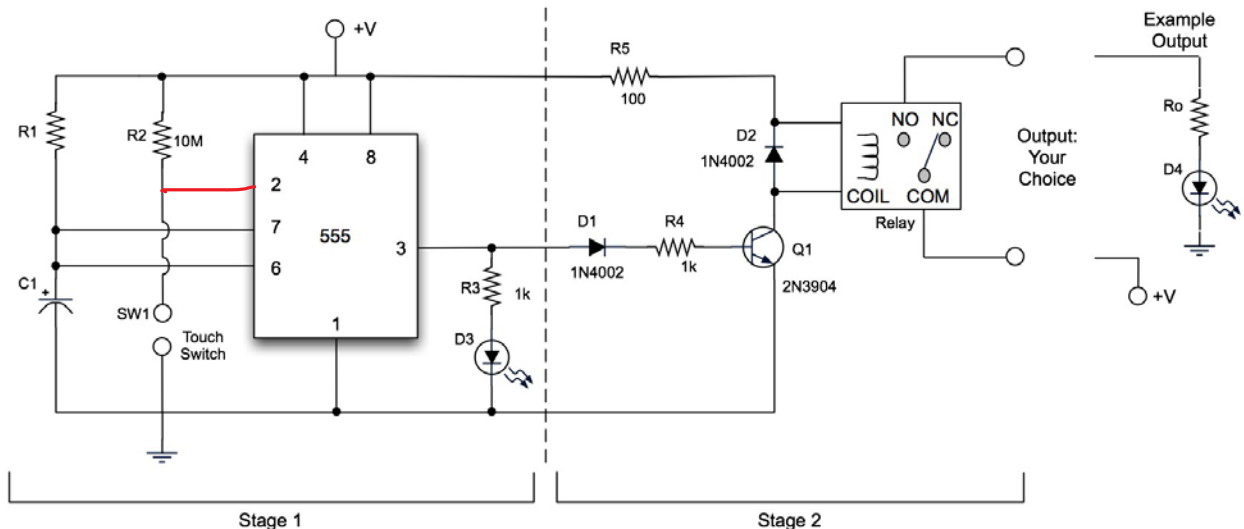

Figure 1: Touch switch circuit
The touch switch circuit is given in Figure 1 and is split into 2 stages. Stage one of the circuit produces the output pulse using the 555 timer to turn on the LED (D3). Once the desired output pulse width is defined, then stage two is added to complete the circuit. The input voltage for this circuit can vary widely. Enough voltage should be applied to drive the 555 timer and relay, however, too much voltage could destroy the 555 timer or the relay coil. The output components will also need to be considered when choosing the input voltage. One should consider this circuit as a marketable product for a toy, game, gag gift, holiday decoration, etc. when designing the output portion of the circuit. Important design questions should be answered:
Build stage 1 of the Project circuit (Figure 1) and simulate it for 10 seconds. Use the input voltage stated in Q(2A). To simulate the touch input to pin 2, use a monetary switch or push-button.
Add stage 2 to the previous circuit simulation and simulate it for 10 seconds. Use the input voltage stated in Q(2A). Use the example output after the relay from the project circuit given in Figure 1. To simulate the touch input to pin 2, use a monetary switch or push-button. Use a **EDR201A05 Relay** in your circuit, which can be found in the relay category of component group basic. This is a SPST relay with a NO contact, and not a SPDT relay like we have in the lab, but when the circuit is built only the NO will be required. ***\*\*When simulating the full circuit, only tap the space bar (it simulates the function of the switch) once or an error will occur\*\*.***
This part of the project involves constructing the circuit and demonstrating that it works as demonstrated by the simulation. Build each stage of the circuit in Figure 1 and then add the designed output portion. Answer all questions listed below as a discussion in tech memo format. Create all specified appendices in tech memo format.
**7. Construct stage 1 of Figure 1.** Take oscilloscope measurements on this circuit just as you did in the simulation. Save a waveform that captures the **input trigger** and one that captures the **output pulse**. (Put these images in Appendix 4)
**8. Add stage 2 of Figure 1 to the circuit of step 1, including the example output.** *\*\*Try to use the same LED as specified in Q(5C) of Part 3\*\** Take oscilloscope measurements on this circuit just as you did in the simulation. Save a waveform that captures the **input trigger**, one that captures the **output pulse** and one that captures the **collector side of the BJT**. (Put these images in Appendix 4)